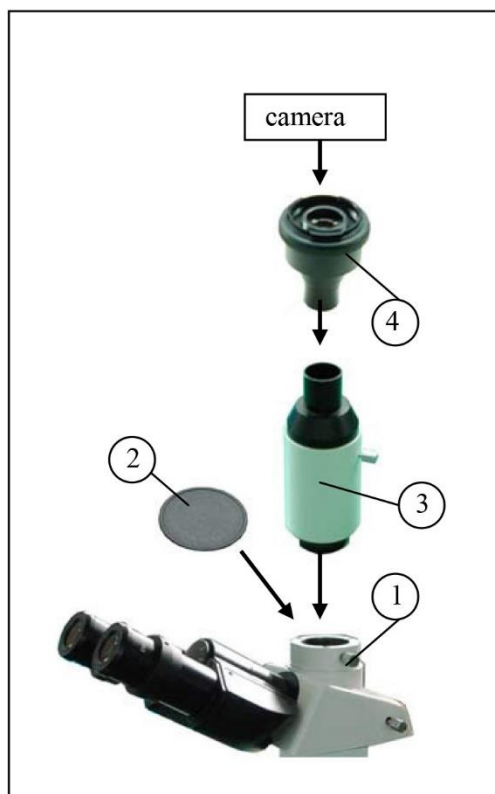

Figure 32
5.2.2. Installing the photography set (Figure 32)